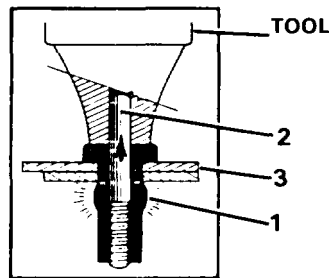

Figure 4-6. Rivnuts (sheet 3 of 4)
(3) Refer to Figure 4-6, sheet 4, View A and continue to retract the mandrel (2) until the rivnut (1) is clinched securely in place. Then, unscrew the mandrel (2) leaving the rivnut in place. The rivnut now can be used to install any item (such as bracket (4)) on plates (3) as shown in View B.